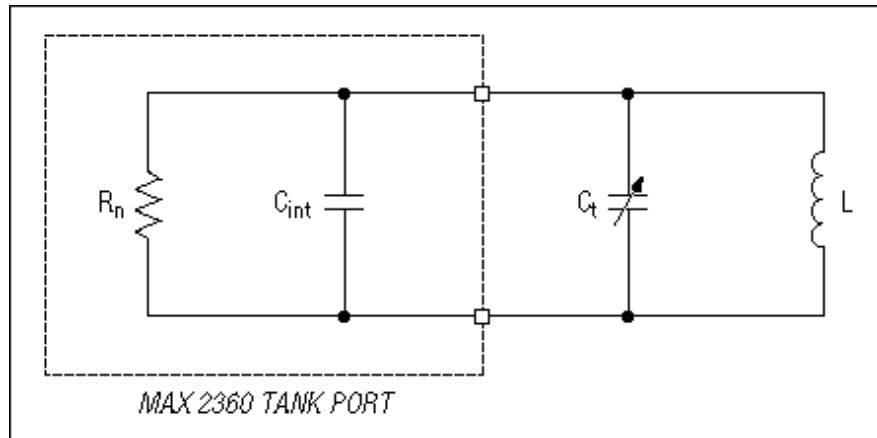
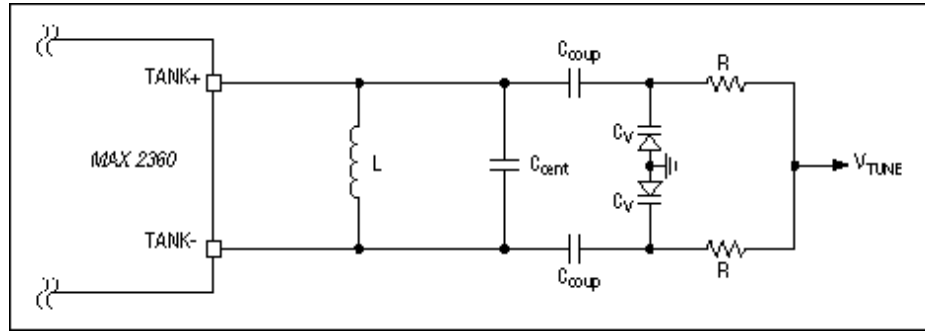

Figure 1. Basic VCO model
Figure 2. The MAX2360 tank circuit
Figure 2 shows the differential tank circuit used for the MAX2360 IF VCO. For analysis purposes, the tank circuit must be reduced to an equivalent simplified model. Figure 1 depicts the basic VCO model. The frequency of oscillation can be characterized by EQN1:
Inductor L resonates with the total equivalent capacitance of the tank and the internal capacitance of the oscillator ($C_t + C_{int}$) (see Figure 1). C_{coup} provides DC block and couples the variable capacitance of the varactor diodes to the tank circuit. C_{cent} is used to center the tank's oscillation frequency to a nominal value. It is not required but adds a degree of freedom by allowing you to fine-tune resonance between inductor values. Resistors (R) provide reverse-bias voltage to the varactor diodes via the tune voltage line (V_{tune}). Their value should be chosen large enough so as not to affect loaded tank Q but small enough so that $4kTBR$ noise is negligible. The resistors' noise voltage gets modulated by K_{vco} , producing phase noise. Capacitance C_v is the variable tuning component in the tank. The capacitance of the varactor diode (C_v) is a function of reverse-bias voltage (see Appendix A for the varactor model). V_{tune} is the tuning voltage from a phase-locked loop (PLL).
Tuning gain (K_{VCO}) must be minimized for best closed-loop phase noise. Resistors in the loop filter as well as the resistors "R" (Figure 2) will produce broadband noise. Broadband thermal noise ($V_n = \sqrt{4kTB R}$) will modulate the VCO by K_{VCO} , which is measured in MHz/V. There are two ways to minimize K_{VCO} . One is to minimize the frequency range over which the VCO must tune. The second way is to maximize the tuning voltage available. To minimize the frequency range over which the VCO must tune, tight tolerance components must be used, as will be shown. To maximize tuning voltage, a charge pump with a large compliance range is needed. This is usually accomplished by using a larger V_{CC} . The compliance range for the MAX2360 is 0.5V to $V_{CC}-0.5V$. In battery-powered applications, the compliance range is usually fixed by the battery voltage or regulator.